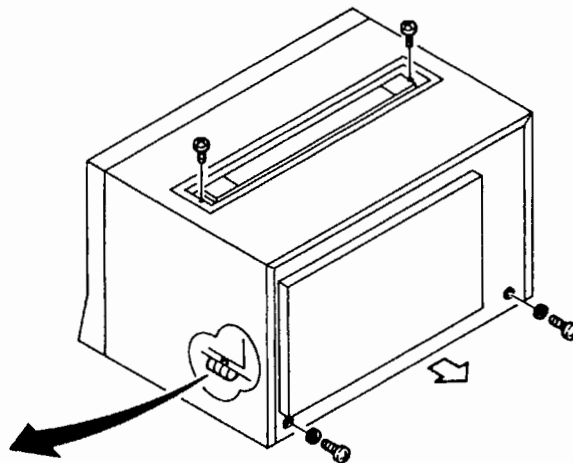

Fig 6.19
- (3) Pull the top cover to the rear to remove it. There is lithium battery pack on the right side when viewed from the front (Fig. 6.19). The battery pack incorporates lead wires and connectors.
- (4) Remove the battery from the recorder using a Phillips screwdriver and then take the leads and connector off the battery.
- (5) Mount a new battery (Part No. : B9588ZB) onto the connector of the main board from which the used battery was removed.
- (6) Fix the battery in place with a screw.
- (7) Install the cover to complete replacement.